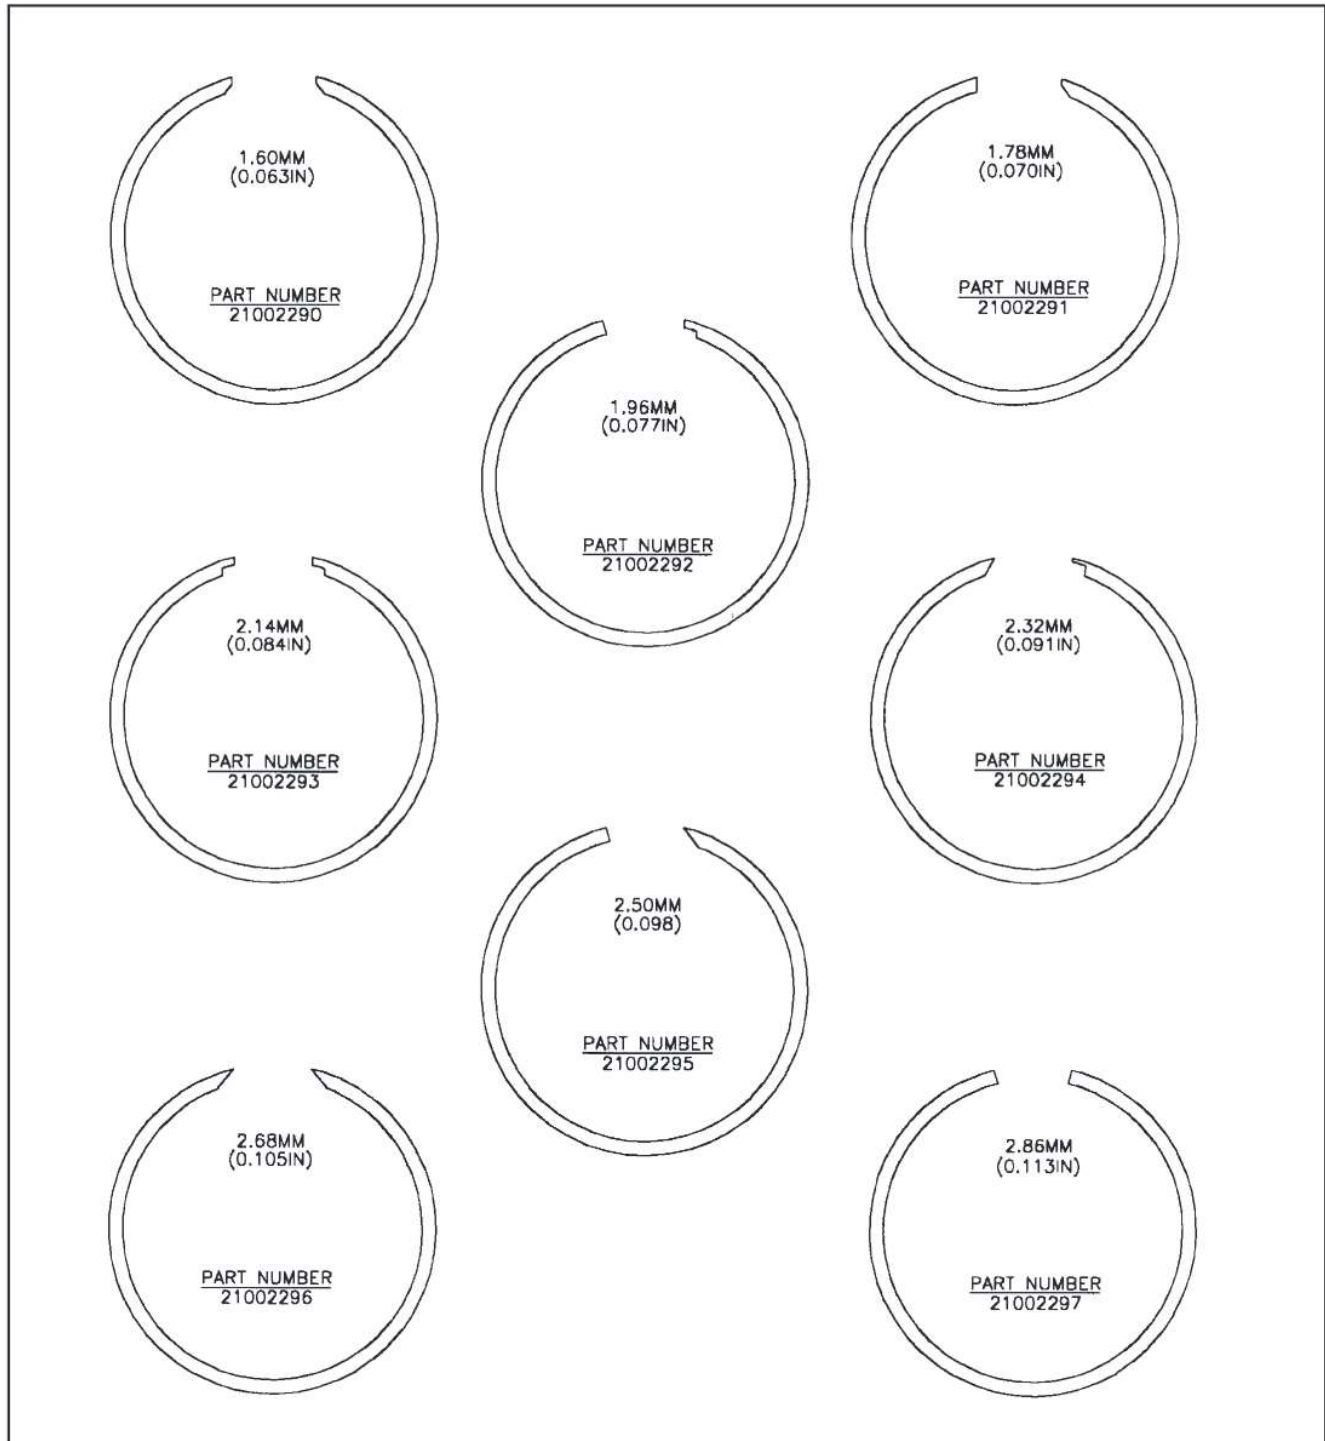

Figure 118
4. The clutch clearance in the 1st clutch drum should measure .038" to .055". The clutch pack clearance is adjusted with the retaining snap ring. Refer to figure 118 on page 58 for the different selective sizes and part numbers.
4. The clutch clearance in the 2nd clutch drum should measure .060" to .086". The clutch pack clearance is adjusted with the retaining snap ring. Refer to figure 118 on page 58 for the different selective sizes and part numbers.
4. The clutch clearance in the 3rd clutch drum should measure .046" to .061". The clutch pack clearance is adjusted with the retaining snap ring. Refer to figure 118 on page 58 for the different selective sizes and part numbers.
4. The clutch clearance in the 4th clutch drum should measure .036" to .046". The clutch pack clearance is adjusted with the retaining snap ring. Refer to figure 118 on page 58 for the different selective sizes and part numbers.
6. Zero dial indicator. Apply the regulated air pressure and measure the piston travel. If end play is not within factory specifications, release the pressure and change the selective backing plate retaining snap ring (See Figure 118 on page 58).